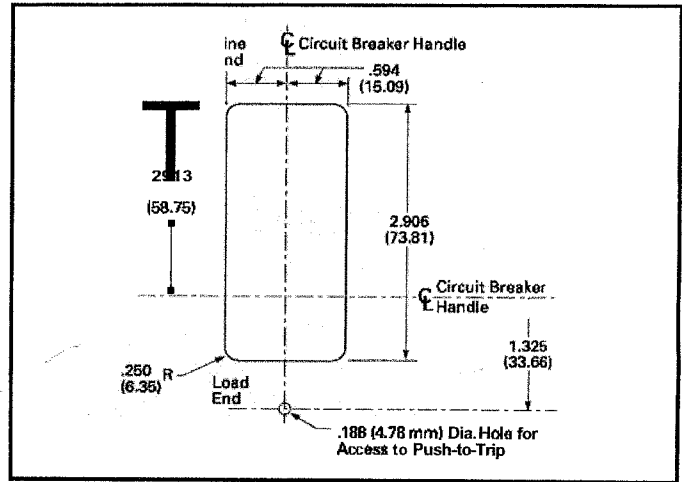
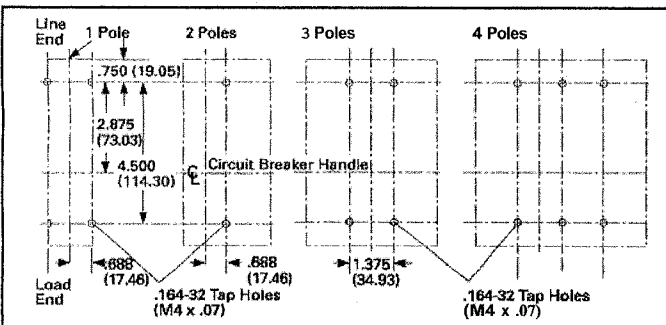

Fig. 2-2. Circuit Breaker Escutcheon Dimensions
Fig. 2-1. Circuit Breaker Mounting Bolt Drilling Plans
a. For individual mounting panels, make sure that mounting panel is predrilled using bolt drilling plan (Fig. 2-1). For panelboard mounting, only load end support mounting holes are required. For deadfront cover applications make sure panel cover is cut out to correct escutcheon dimensions (Fig. 2-2).